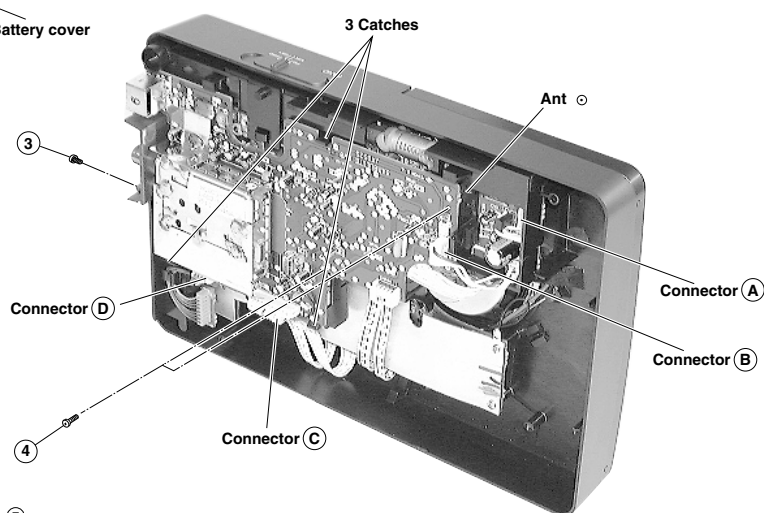

Fig. 2
2. Removal of SATELLITE P.W.B. Board (Fig. 2)
4. Feed in a week signal to IC201 (Note 3) from the genescope. Use the T201 core to form the S-curve shown in the Fig. 2.